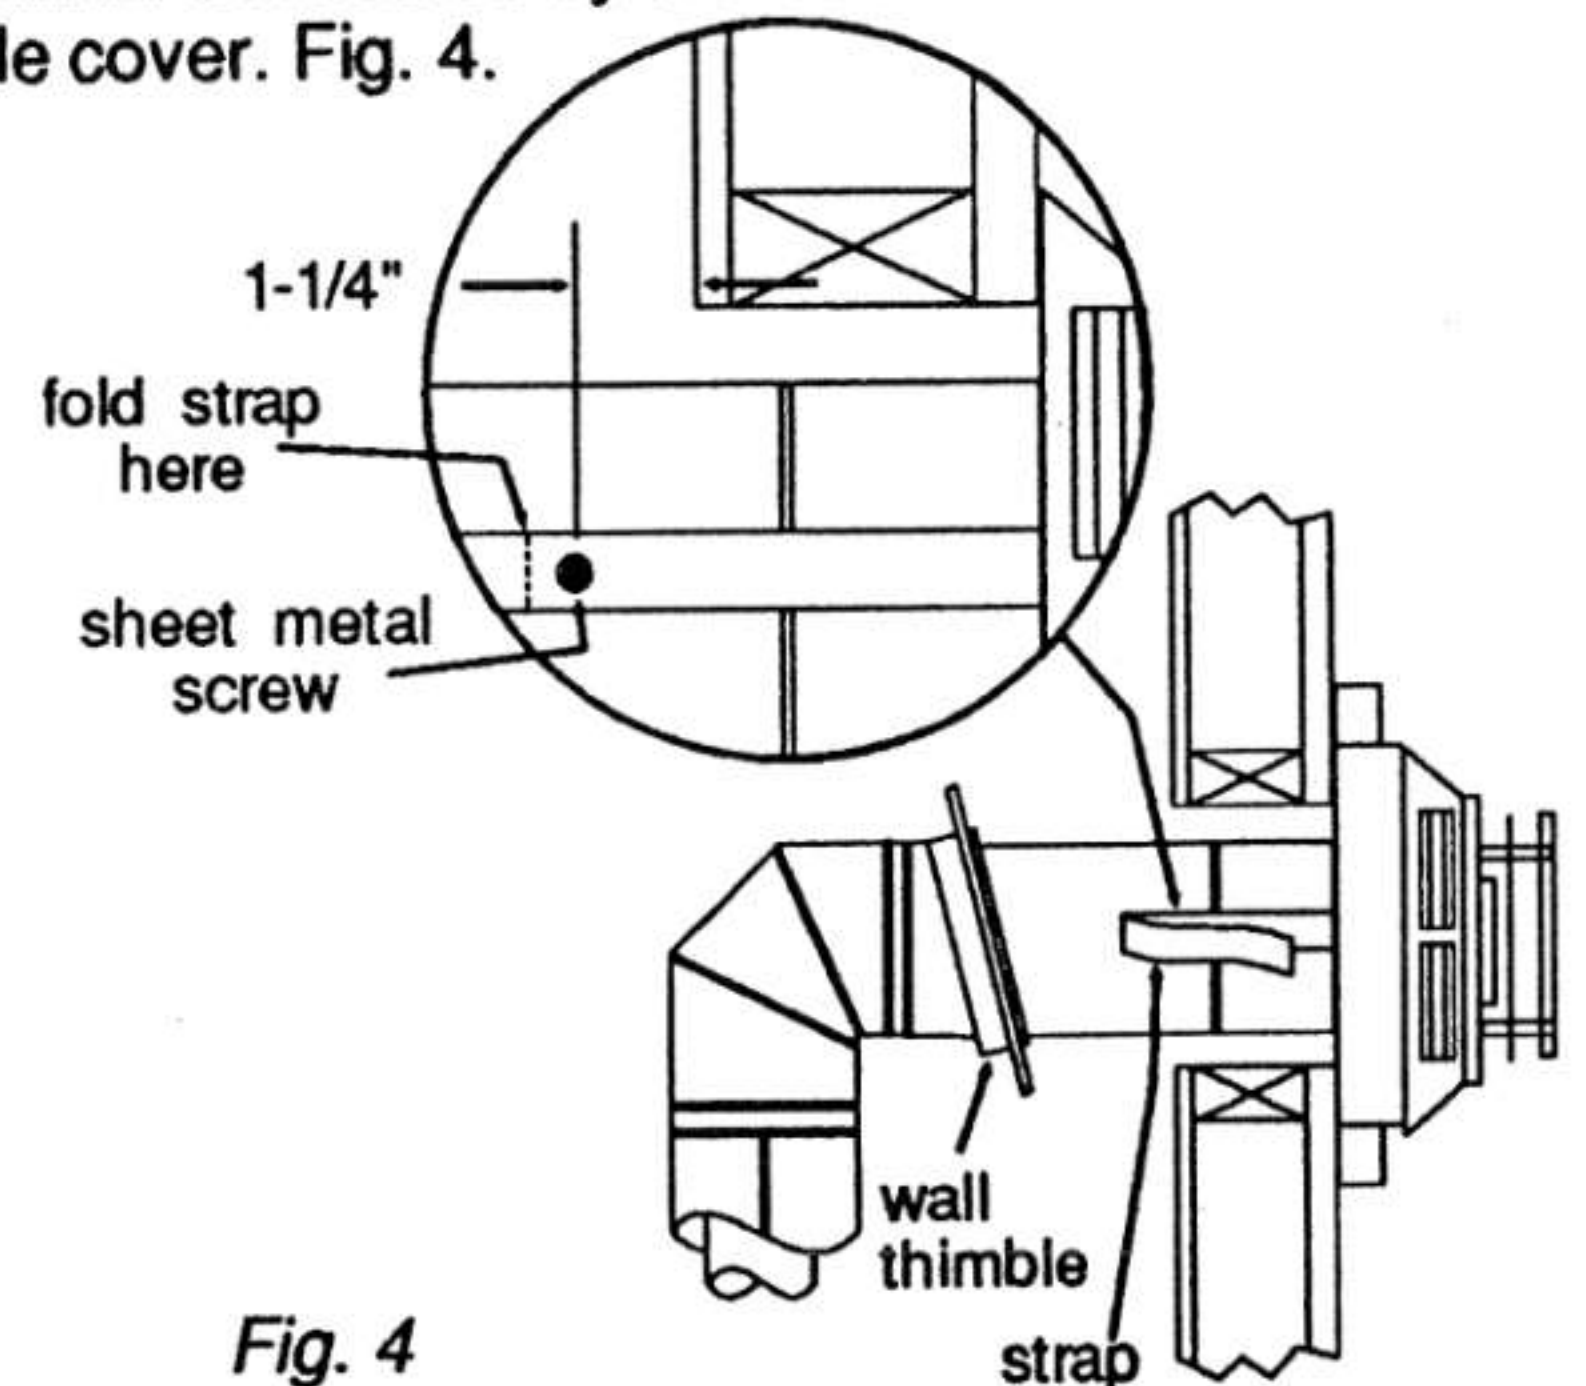

Fig. 4
- 7) Slide the appliance and vent assembly towards the wall carefully inserting the vent pipe into the vent cap assembly. It is important that the vent pipe extends into the vent cap sufficient distance so as to result in a minimum pipe overlap of 1-1/4 inches. Secure the connection between the vent pipe and the vent cap by attaching the two sheet metal strips extending from the vent cap assembly into the outer wall of the vent pipe. Use the two sheet metal screws provided to connect the strips to the pipe section. Bend any remaining portion of the sheet metal strip back towards the vent cap, so it will be concealed by the decorative wall thimble cover. Fig. 4.